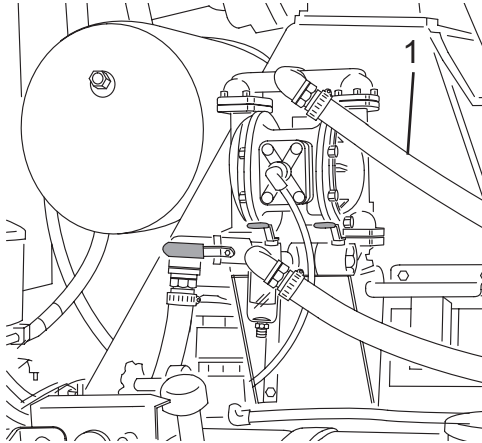

Figure 94
- Open the drain petcock located at the lowest point in the supply hose (Figure 94, Item 1).